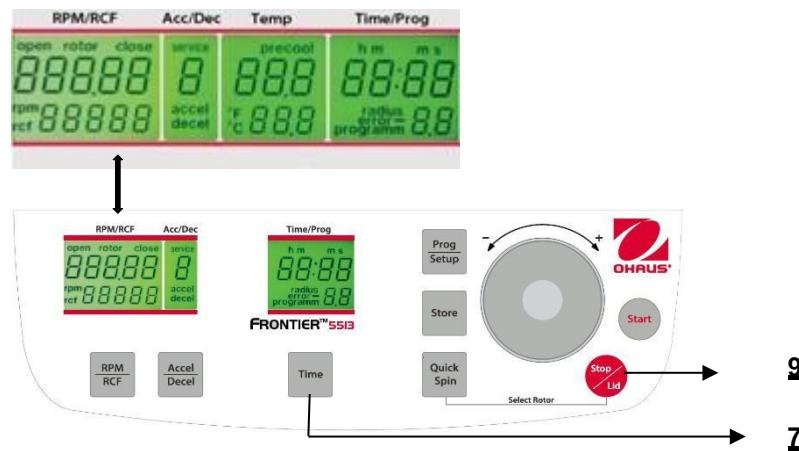

Figure. 27
While the centrifuge is turned off, press simultaneously the keys "Time"(7) and "Stop/Lid" (9) and turn on the mainswitch of the centrifuge. Now release both keys and as a result a display test is executed for approx. 5 seconds. All indicators will appear at the same time (see figure 27).